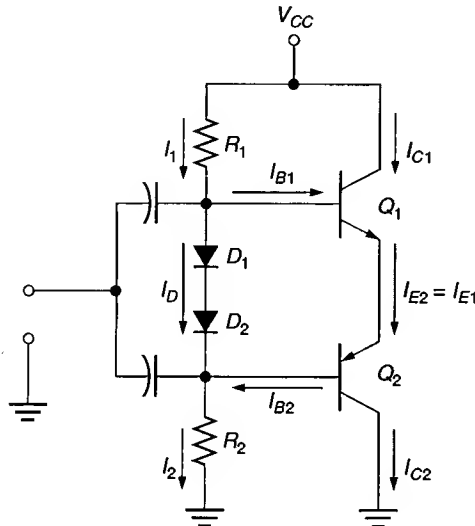
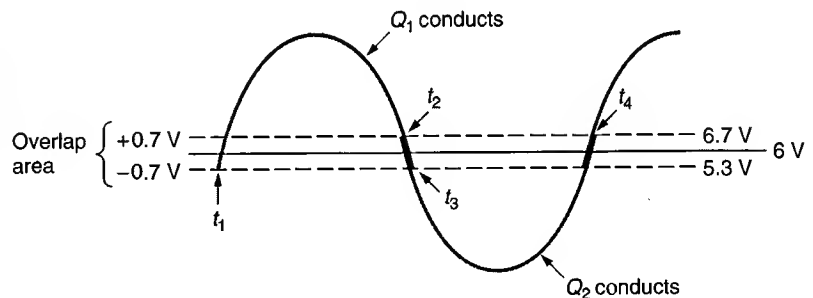

FIGURE 11.29
FIGURE 11.30
With 1.4 V developed across the biasing diodes, V_B of Q_1 is at 5.3 V + 1.4 V = 6.7 V. The value of V_E for Q_1 is 6 V, as is shown in the figure. Since V_B for this *npn* transistor is 0.7 V more positive than V_E , Q_1 also conducts. Thus, both transistors in the diode-biased amplifier conduct, and some measurable value of I_C is present, as shown in Figure 11.29.
You have been told that I_{CQ} has some measurable value when diode bias is used. For this reason, the amplifier cannot technically be classified as a class B amplifier. This point is illustrated with the help of Figure 11.30, which shows a typical input waveform for the circuit in Figure 11.29.
The alternations shown in Figure 11.30 are offset to illustrate a point. In reality, the waveform is identical to any other sine wave.
To simplify our discussion, we are going to make an assumption: A transistor conducts until its base and emitter voltages are equal, at which time it turns off. With this in mind, let's look at the circuit's response to the waveform shown in Figure 11.30.
Q_1 (in Figure 11.29) conducts as long as its base voltage is more positive than 6 V. The value of V_B drops to 6 V at t_1 and t_3 because the -0.7 V value of v_{in} subtracts from the 6.7 V value of $V_{B(Q1)}$. Thus, we can assume that Q_1 conducts for the entire time between t_1 and t_3 . The same principle applies to Q_2 . At t_2 and t_4 , Q_2 turns off, because the $+0.7 \text{ V}$ value of v_{in} adds to the value of $V_{B(Q2)}$, causing V_B and V_E to be equal. Thus, Q_2 conducts for the entire time between t_2 and t_4 .
1. The increase in diode temperature causes the 1.4 V drop across D_1 and D_2 to *decrease*. At the same time, I_D *increases* (see Figure 11.29).